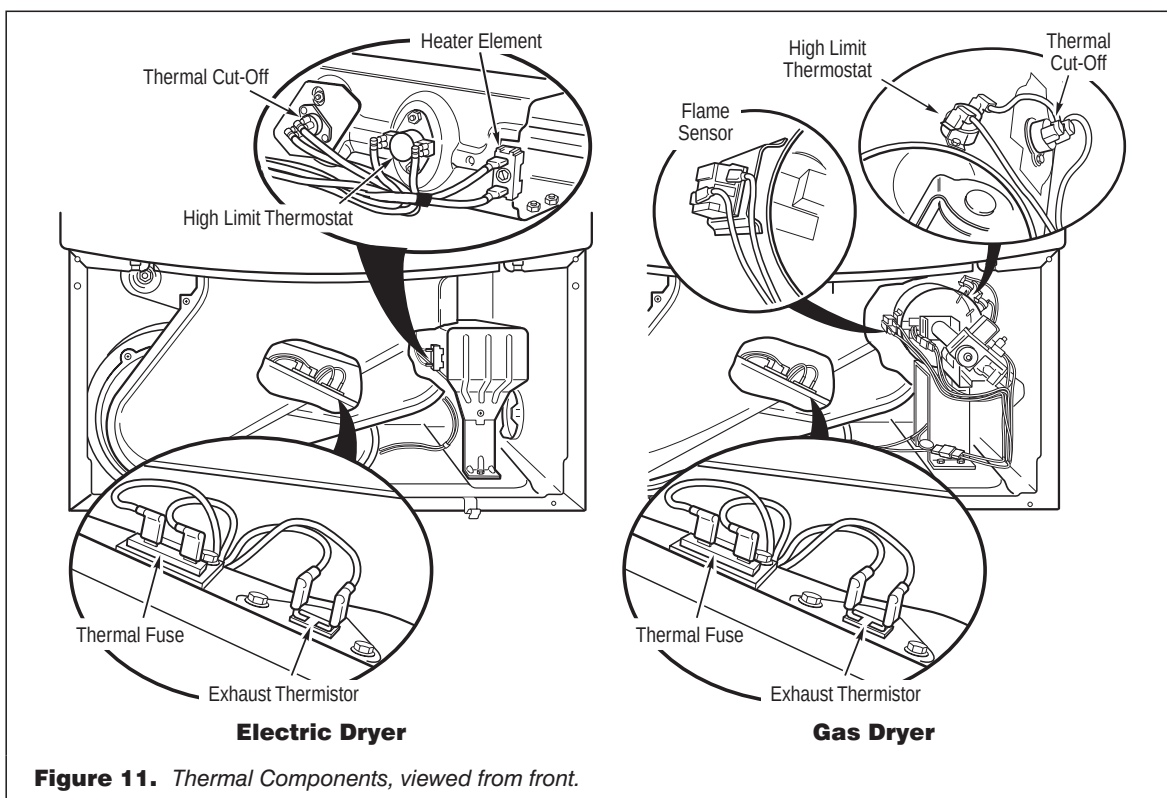

Figure 11. Thermal Components, viewed from front.
Locate the components using figure 11, page 7.
5. Locate the high limit thermostat. See figure 11. Measure the continuity through it by connecting the meter probes on the red wire and blue wire terminals.
- Check wire connections at the machine control electronics and thermistor. See Accessing & Removing the Electronic Assemblies on page 10, and for thermistor location see figure 11.
2. Access the thermal fuse by first removing the toe panel. See Removing the Toe Panel, page 10; and for thermal fuse location see figure 11, page 7.
3. Using an ohmmeter, check the continuity across the thermal fuse. See figure 11 for location.
3. Using an ohmmeter, check the continuity across the thermal cut-off. See figure 11, page 7 for location.